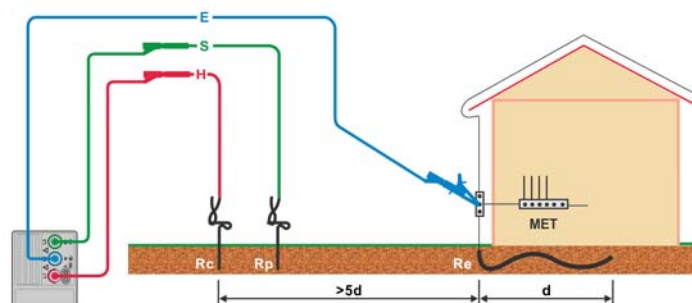

Figure 5.35: Resistance to earth, measurement of main installation earthing
- ❑ **Connect** the **E** test lead to the earth to be tested and the **H** and **S** test leads to the earth spikes (see *Figure 5.35* and *Figure 5.36*).